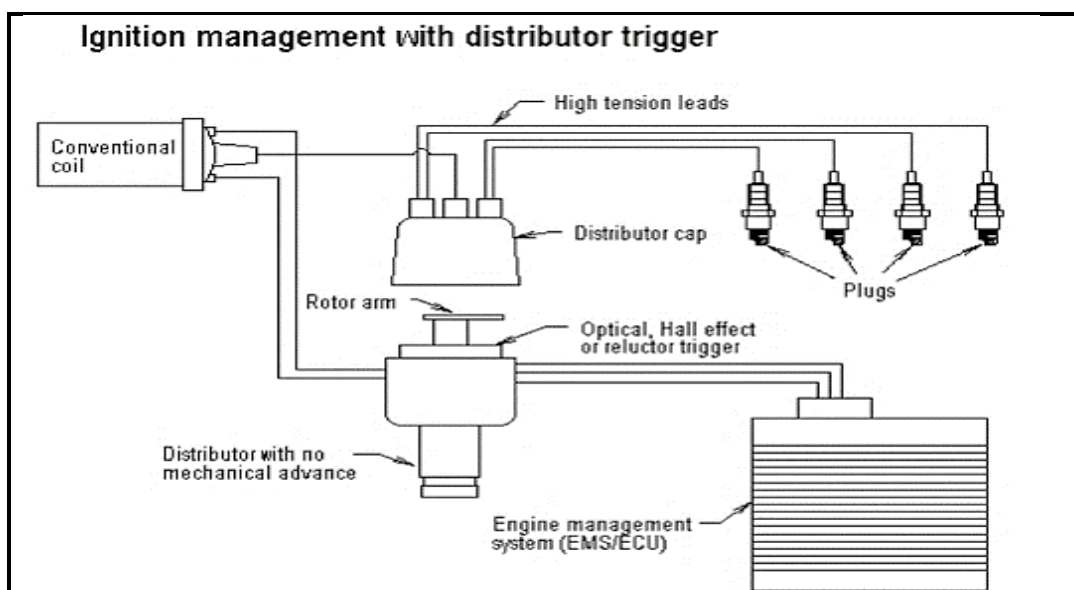

FIGURE 7.8
- 7.8 How many cylinders does the engine FIGURE 7.8 below have?